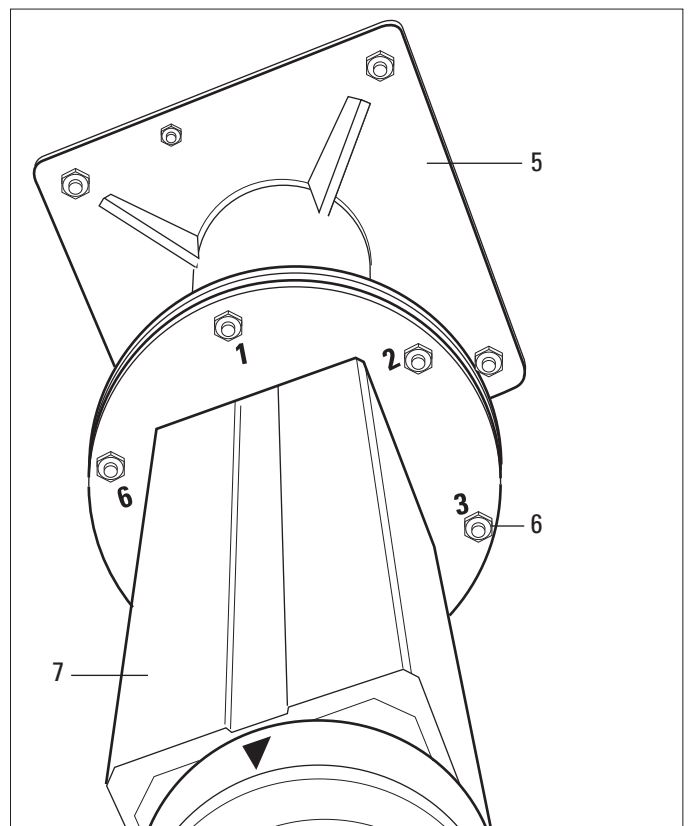

Fig. 4,
⇒ Travel the Telescope Mount (7) to the ceiling and fasten it makeshift to the bracket/ceiling plate (5) by means of 6 M12 nuts (6) (Fig. 4).